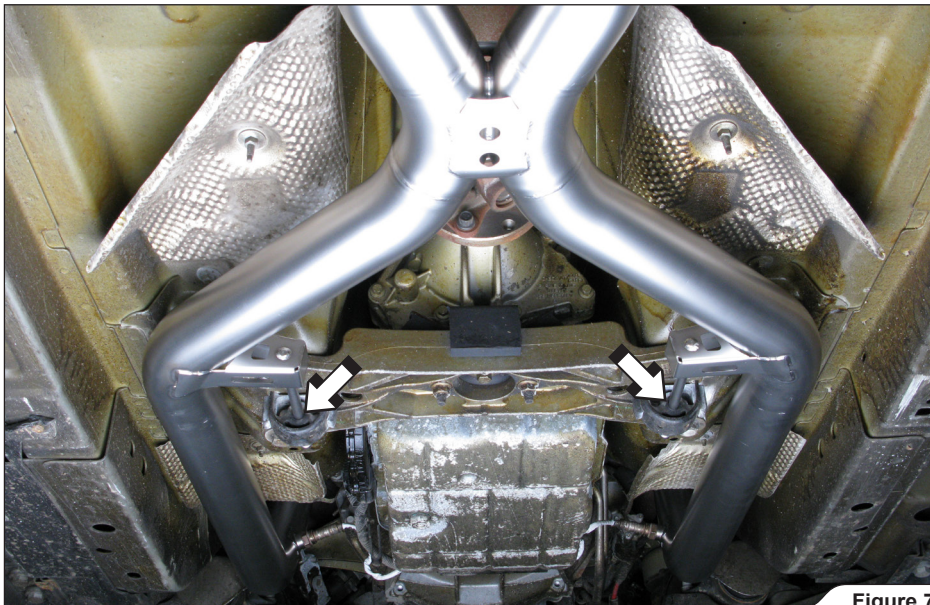

Figure 7
1. **For Evolution only:** put the Akrapovič front pipes near the final position on the vehicle and slide the the front pipes' brackets into the rubber dampers, as shown (**Figure 7**).